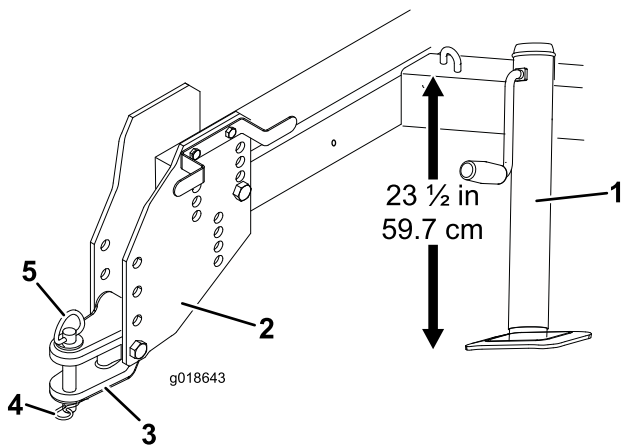

Figure 3
3. Adjust the jack so that the distance from the top of the frame to the ground is approximately 59.7 cm (23-1/2 inches) (Figure 3).
- Remove the bolts and locknuts securing the hitch tongue to the hitch plates (Figure 3).
6. Secure the hitch tongue to the prime mover hitch with the hitch pin and lynch pin (Figure 3).